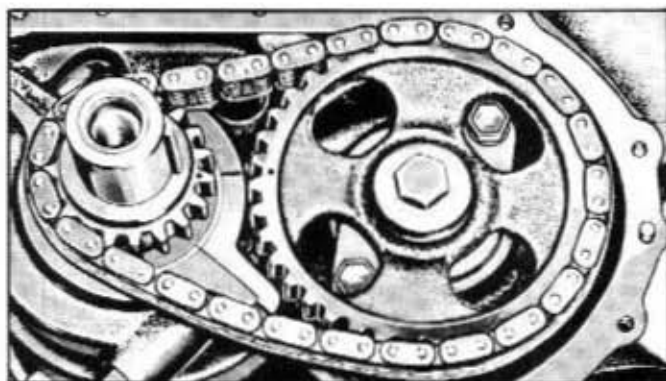

Fig. 6A-79—Aligning Timing Marks—(60C-5623)
15. Fill and bleed the cooling system. Start the engine and operate it for a minimum of 30 minutes at 1200 rpm to stabilize engine temperatures. Adjust the engine idle speed and the idle fuel mixture. Check the valve lash with the engine idling and adjust the lash if necessary, using step-type gauge. Refer to figure 6A-9.